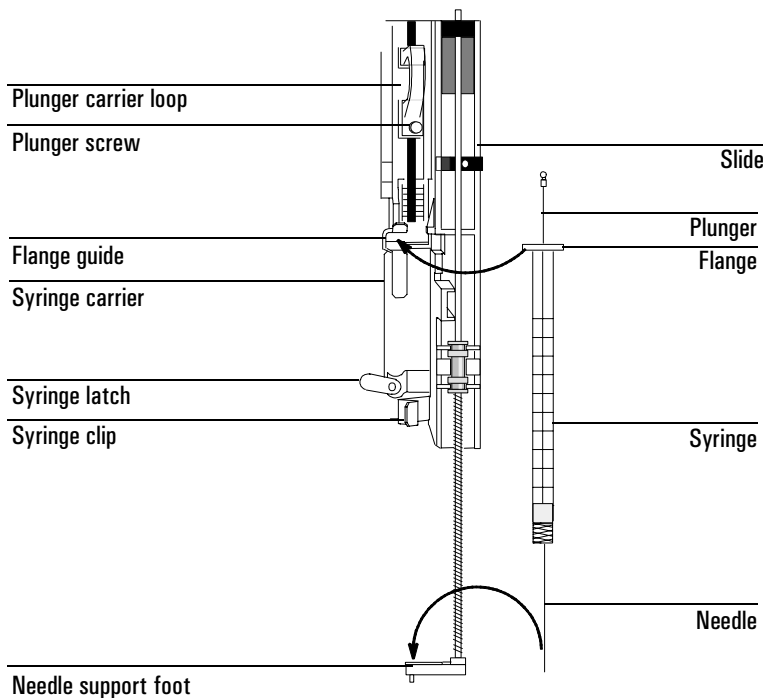

Figure 10 Installing the syringe
3. Slide the syringe carriage up (or down) until the syringe is accessible. See Figure 10.